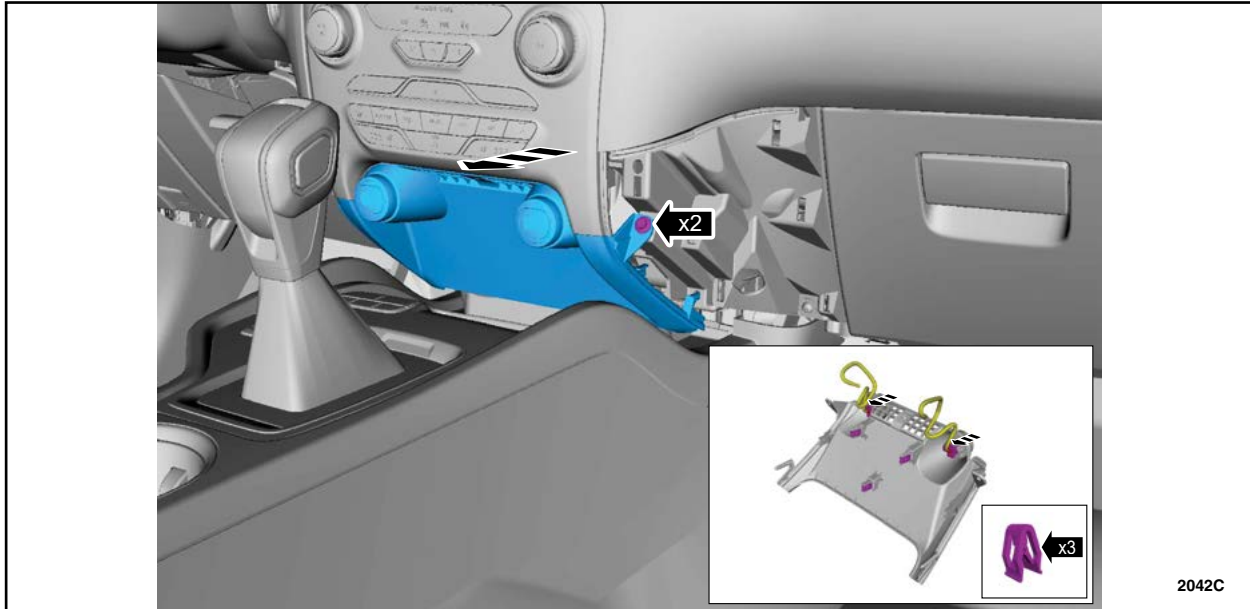

FIGURE 6
7. Remove the fasteners and the lower center stack trim panel. See Figure 6.
14. Install the lower center stack trim panel and the fasteners. See Figure 6.